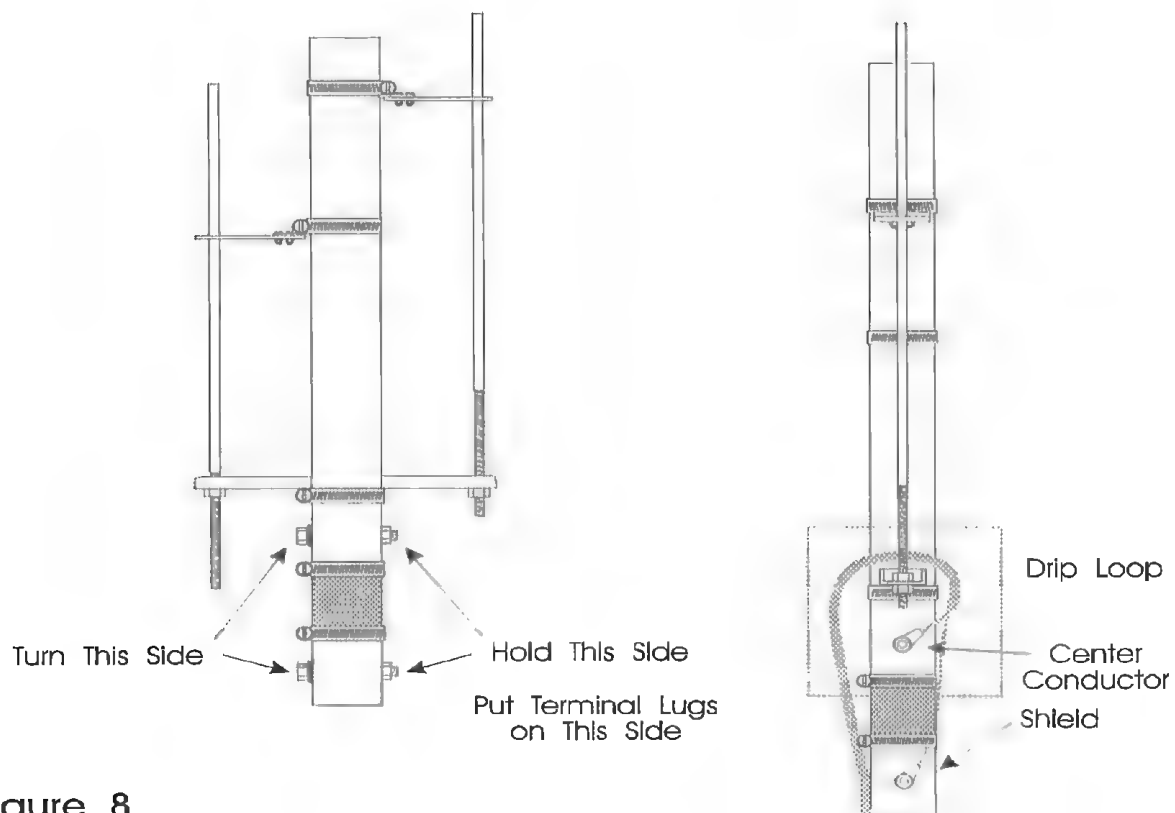

Figure 8
- [ ] 23. Remove the nuts on the center insulator bolts of the main element and install the *center conductor* lug of the coax *under the upper* element nut and the *shield* lug *under the bottom* element nut. Hold the nut in place and turn the bolt head to tighten these bolts so that the lug does not break off the end of the coax. Be sure to dress the coax so it loops up in a drip loop so water cannot get into the end. See Figure 8.